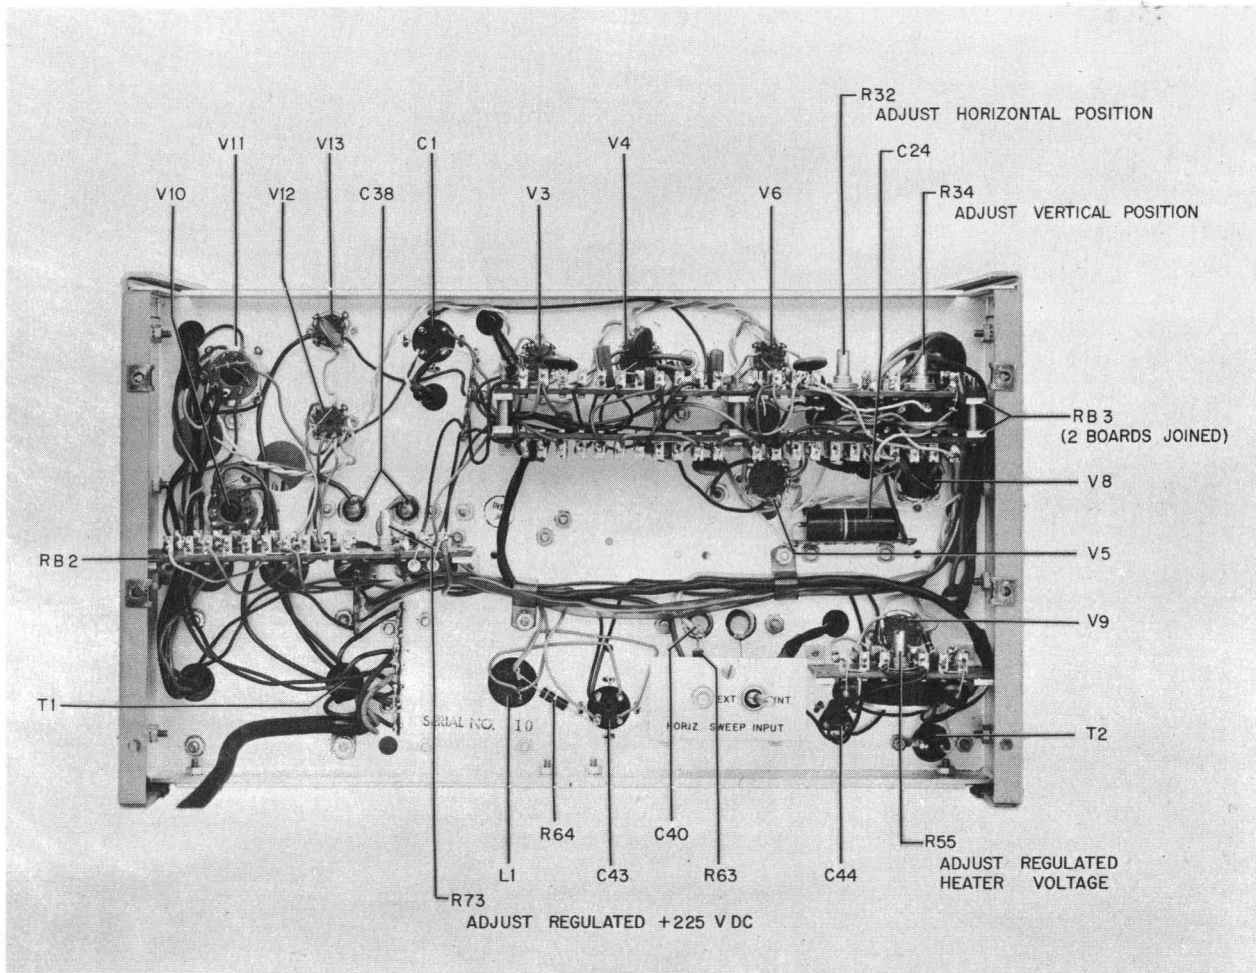

Fig. 18. Model 540A Transfer Oscillator, Rear View, Cabinet and Back Plate Removed to show Locations of Adjustments and Components
The two adjustable voltages are set by screwdriver adjusted potentiometers located on the rear chassis (see Figure 18). To adjust the regulated +225 volts proceed as follows:
- a. Connect an average responding a-c voltmeter which is calibrated in terms of rms of a sine-wave, such as an ϕ 400D, to terminals 4 and 6 of transformer T2 (see Figure 18). The meter should read 6 volts, which is equal to 5.4 volts rms. Note: If a peak responding meter, such as a vtvm with a diode probe is used, a spurious reading will probably be obtained due to spikes, etc., in the square-wave signal. This type of instrument should be avoided. An accurately calibrated multimeter with full wave rectifier for a-c measurements is also suitable, as this type of instrument is average responding. If necessary adjust potentiometer R55 to obtain a reading of 6 volts.
The trace on the front panel oscilloscope is adjusted to center by horizontal positioning control R32 and vertical positioning control R34 (see Figure 18.)